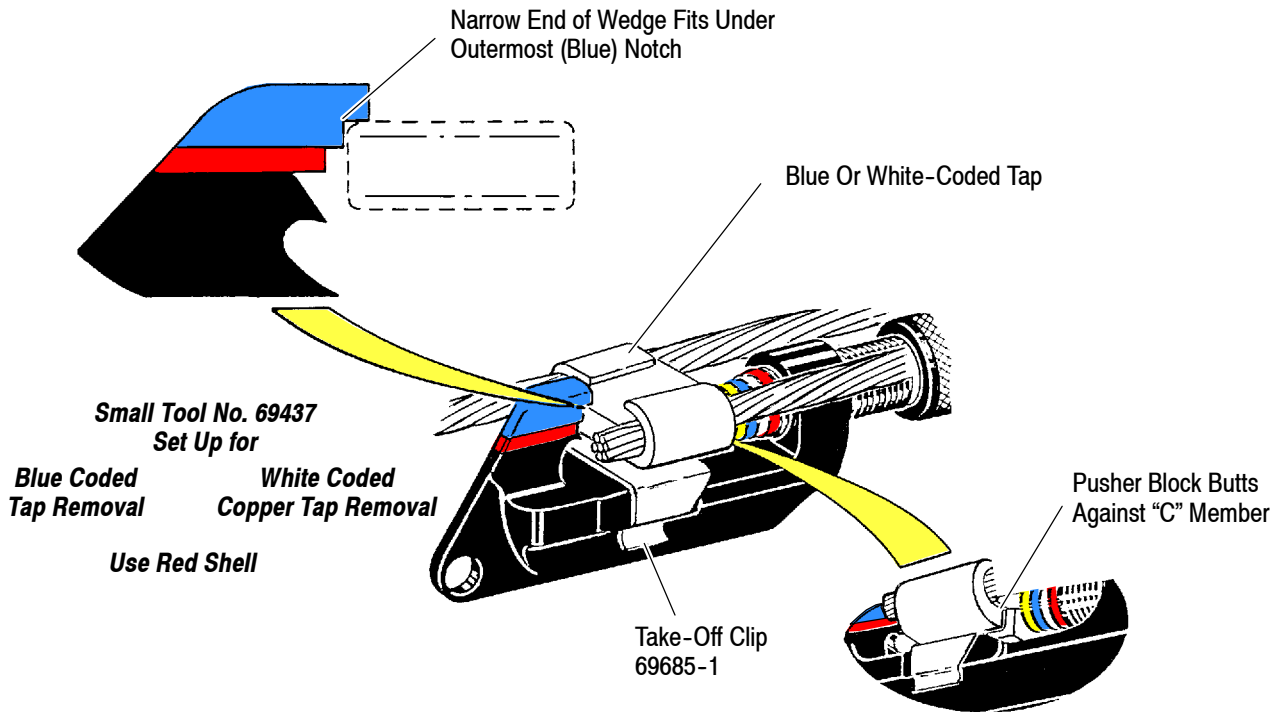

Figure 32
-   Use take-off clip No. 69685-1 and red shell for removal of blue coded taps and white coded copper taps. Narrow end of wedge fits under outermost blue notch of tool and pusher block butts against "C" member as shown in Figure 32.